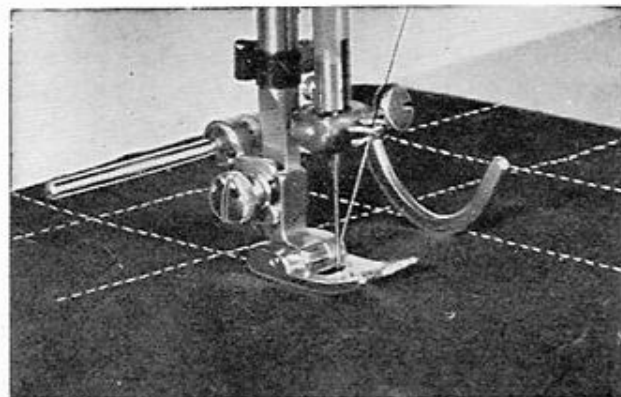

Fig. 31
- (b) Figure 31 indicates the way quilting guide is attached.